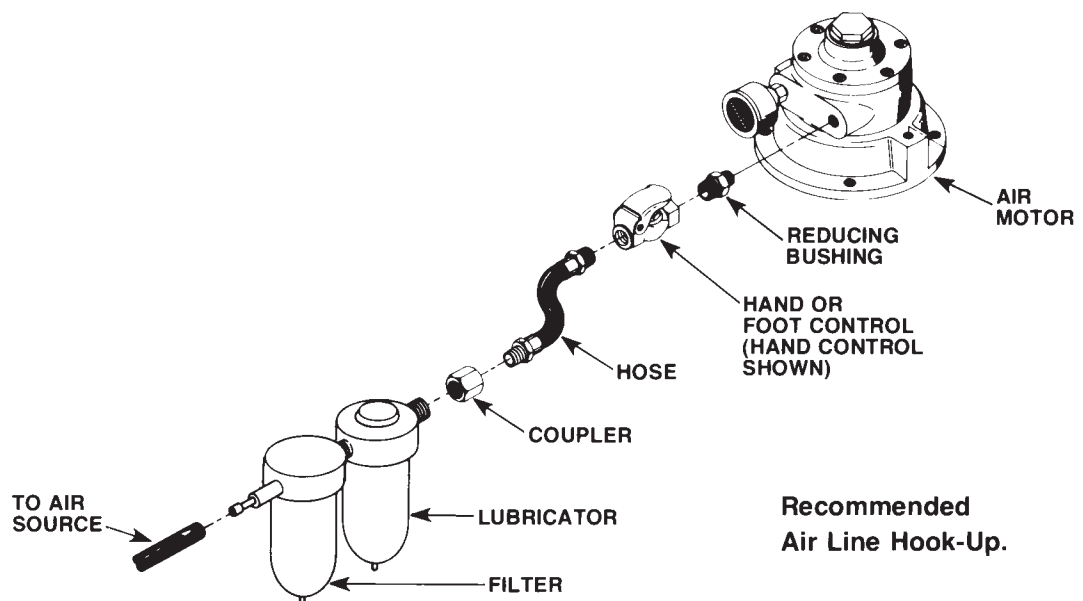

FIGURE 1
**Air Motor:** Remove the thread protectors from the air inlet, and install the air supply fittings (not supplied) as shown in Figure 1. Air supply must be minimum 50 CFM and 80 PSI, with 100 PSI maximum.